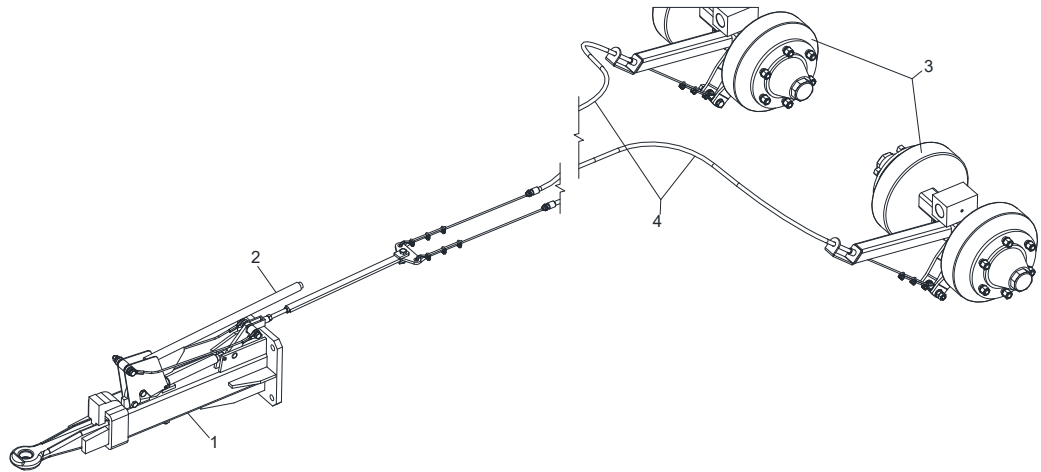

Fig. 19 Overrun brake system
- Overrun device (Fig. 19/1) with brake lever (Fig. 19/2)
- Reverse drive axles (Fig. 19/3)
- Brake cables (Fig. 19/4)